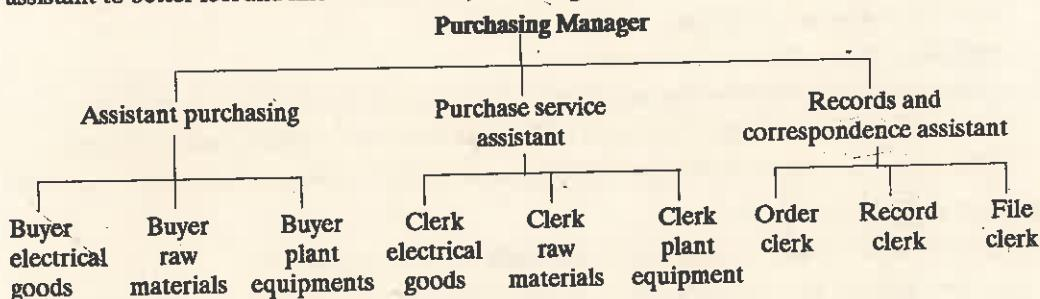

Fig. 23.1. Organisation of a Purchasing Department.
- Purchasing department is a staff function in the overall company structure (Refer Fig.23.1).
- The purchasing manager is, however, assisted in purchasing by a number of assistants and a few clerical staff (refer Fig. 23.1).
- Fig. 23.1 shows an organisation of a typical purchasing department. There are three main sections namely *purchasing*, *purchase service* and *records*.